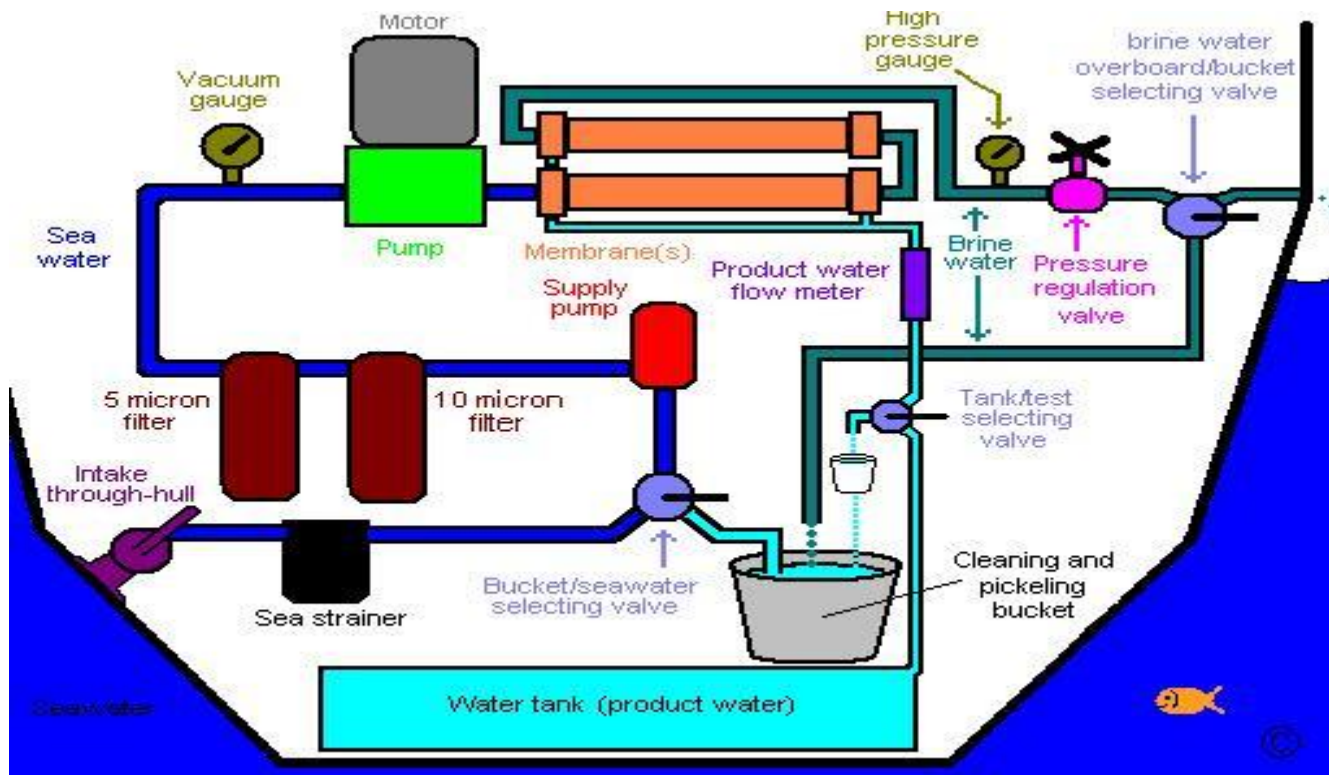

Figure 2
A few more parts are needed to make the system more efficient and for maintenance and control purposes. These are, a supply pump, a sea strainer, a couple of pre-filters, a vacuum gauge, a high-pressure gauge, a bucket/seawater selecting valve, a tank/test selecting valve, a brine water overboard/bucket selecting valve, a cleaning and pickling bucket and a product water flow meter.(see figure 2)
**Brine water overboard/bucket selecting valve:** A 3/4 inch Y-valve, plumbed between the pressure regulation valve and the overboard through-hull, is all that's required to enable you to switch between dumping the brine water overboard or into a bucket. Why would you need to dump brine water into a bucket? Well, you don't really, but sometimes it will be necessary to circulate a cleaning or pickling solution through the system(see figure 2), more on this later. A plastic Y-valve like the Bosworth
To shut down the watermaker, turn the tank/test selecting valve back to the "test" position and fill the 5 gallon cleaning and pickling bucket with product water, then slowly adjust the pressure regulator back to the no-pressure position. When the high-pressure gauge reads zero, switch off the high-pressure pump but leave the supply pump running. Now put the "bucket" hose coming from the bucket/seawater selecting valve into the bucket (see figure 2) and turn the valve from the "seawater" to the "bucket" position. When the water in the bucket gets about 1/3 to 1/2 way down, switch on the high-pressure pump again (leave the pressure regulator in the no-pressure position) until there are only a few inches of water left in the bucket, then switch off the